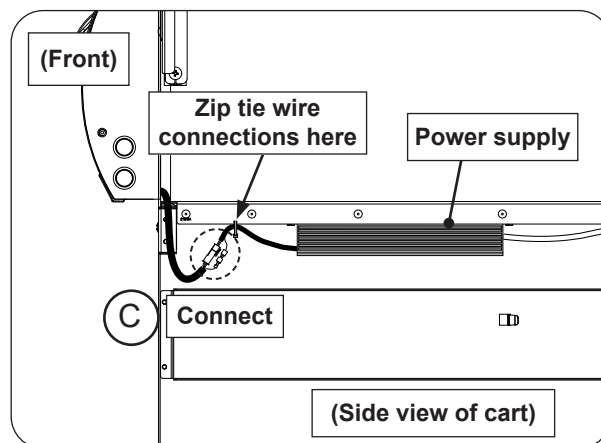

Fig. 11-2 Zip tie electrical connections
3. Connect the appliance wire harness to the power supply. See Fig. 11-2, C.
4. Install a provided zip tie as shown in Fig. 11-2 to keep the electrical connections securely in place.